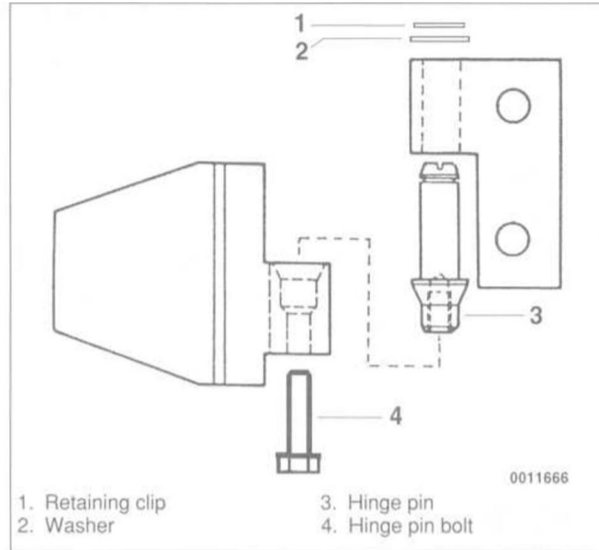

Fig. 4. Door hinge assembly.
2. Remove hinge pin from hinge half. See Fig. 4.